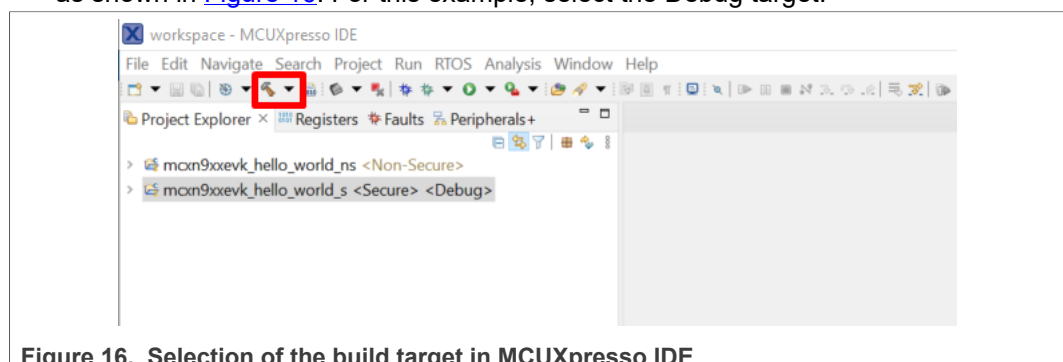

Figure 16. Selection of the build target in MCUXpresso IDE
- Now, two projects should be imported into the workspace. To start building the TrustZone application, highlight the **mcxn9xxevk_hello_world_s** project (TrustZone master project) in the Project Explorer. Then, choose the appropriate build target, Debug or Release, by clicking the downward facing arrow next to the hammer icon, as shown in Figure 16. For this example, select the Debug target.